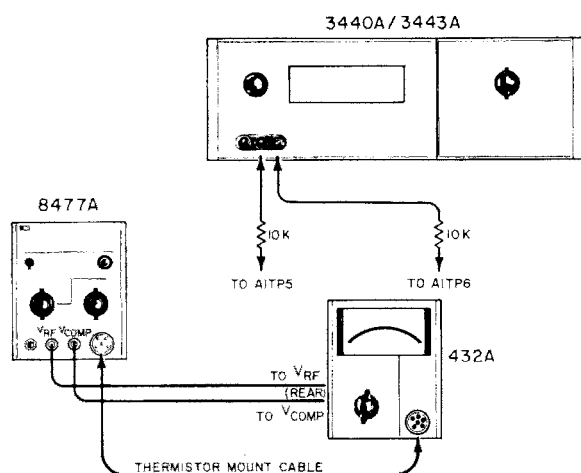

Figure 5-3. Bridge Amplifier Test
a. Connect equipment as shown in Figure 5-3.